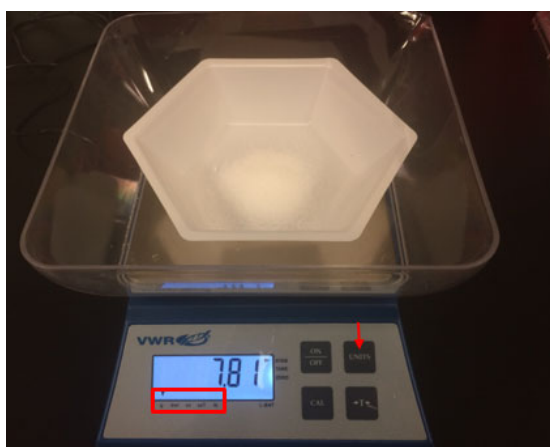

Figure 4: Changing the units displayed
- The default units are on this scale are in grams. If necessary, you may change the units displayed by selecting the “Unit” button. The display will cycle through the available readouts with each button press, shown in figure 4.